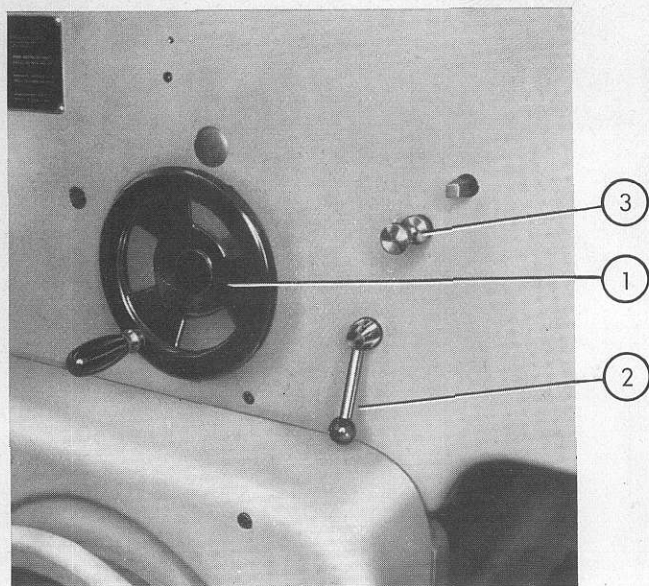

Fig. 15
- **manual raising and lowering mechanism** operated by handwheel 1 (fig. 15) after cutting out automatic control by operating handle 2 (fig. 15) to disengage drive pawl;
- **three-sided jogging** with stroke adjustable from  $\frac{3}{8}$ " down to zero by operating knurled-head set screw 3 (fig. 15) and check nut.